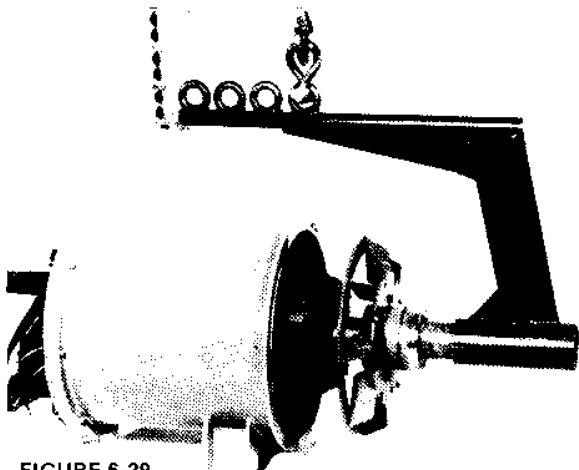

FIGURE 6-29
6. Using a rotor lifting fixture and a suitable hoist, carefully remove the rotor assembly from the main stator and frame assembly through the drive end. (Figure 6-29.)